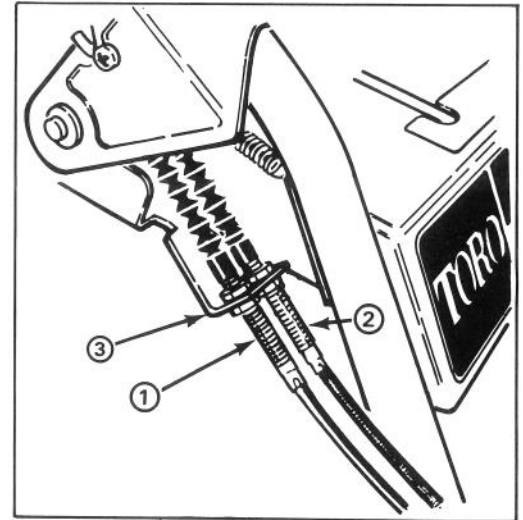

Figure 18
3. Loosen upper jam nut securing auger/impeller cable to mounting bracket (Fig. 18).
ADJUSTING TRACTION DRIVE BELT (Fig. 18)
8. On control cable which corresponds to belt being replaced, loosen jam nuts securing cable to bracket (Fig. 18). Cable must be free to slide in bracket when changing belt(s).